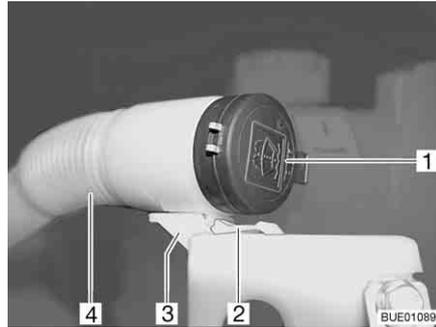

Fig. 45 Washer fluid container filler neck
- Push the handle (Fig. 45,2) down and keep it pressed.
- Pull the flexible hose (Fig. 45,4) to the front and out of the holder (Fig. 45,3).
- Remove the lid (Fig. 45,1) from the filler neck of the washer fluid container.